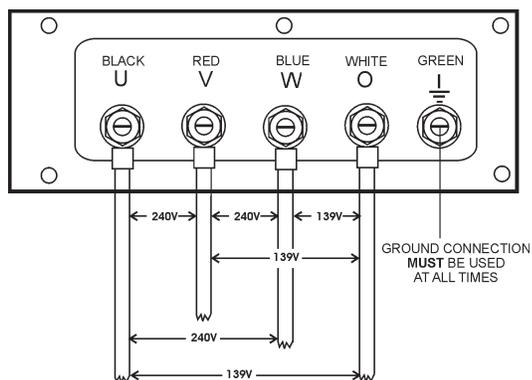

Figure 23. Output Terminal Lugs 3Ø-240/139 Three Phase Connections
2. Connect the load wires to the **Output Terminal Lugs** as shown in (Figure 23).